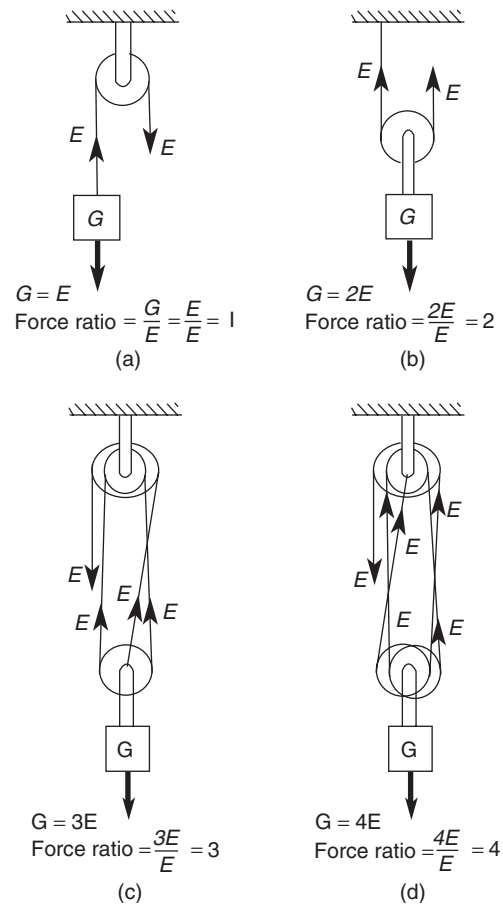

Fig. 36
Figure 36(a), (b), (c) and (d) illustrates various arrangements of lifting tackle (rope falls) raising a load G by exerting an effort E . In each case the effort is transmitted throughout the lifting rope, giving rise to increasing values of force ratio. (The effects of friction are ignored.)
EXAMPLE Determine the load which (ignoring friction) could be raised by exerting an effort of 50 kgf using each of the arrangements illustrated in Figure 36.
16. A load of 275 kgf is to be raised using rope falls as illustrated in Figure 36, page 75. Determine the effort required using each of the arrangements (b), (c), and (d). (Ignore friction).
17. An effort of 85 kgf is applied to each of the arrangements in Figure 36(b), (c), and (d), page 75. Ignoring friction, determine the load which could be raised in each case.
18. A motor and gear unit weighing 450 kgf is to be raised through a vertical distance of 2.5 m. It is proposed to use an inclined plane 4 metres long and a set of rope falls as in Figure 36(d). Ignoring friction, determine the effort required.